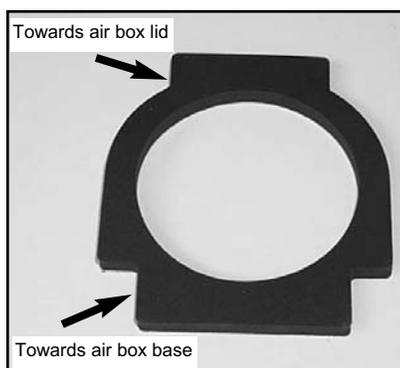
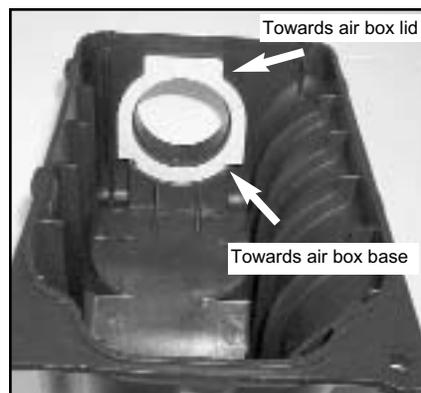

Fig. 1
Fig. 2
3. Apply the provided gasket around the intake opening in the air box base. (Fig. 1 and Fig. 2)